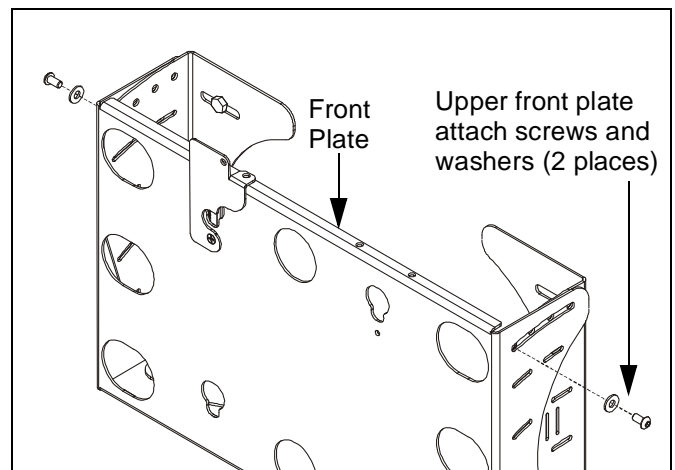

Figure 3: Upper Front Plate Attach Screws
1. Using key (60) remove and retain *upper* front plate attach screws and washers (See Figure 3).